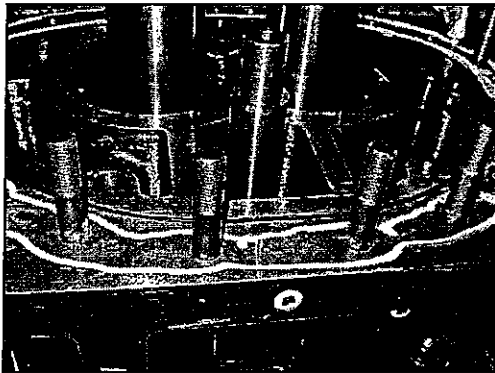

Fig. 3-18
- (9) Install stud bolts on Rotor Casing (B02). Place O-ring (B16) in the groove and apply Three Bond to the flange surface of Rotor Casing (B02) (Fig. 3-18).